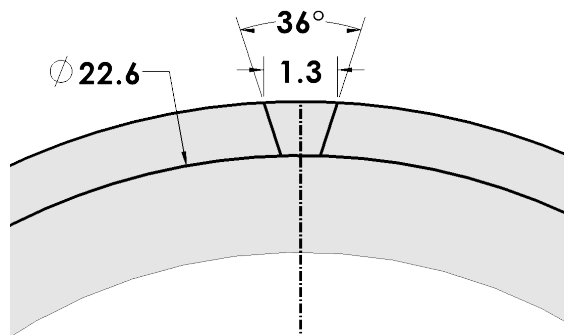

Fig. 14
Step 14. Click **Smart Dimension**  (S) on the Sketch toolbar.
Step 15. Add dimensions, **Fig. 14**.